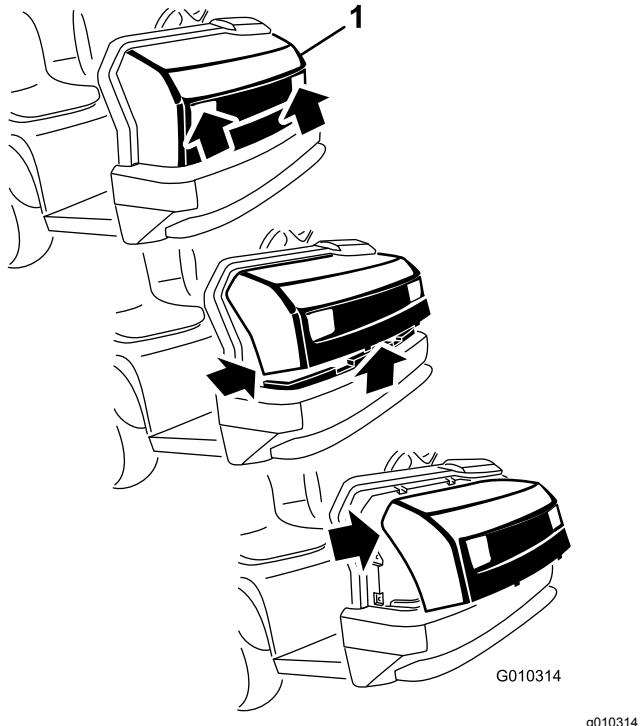

Figure 35
1. While grasping the hood in the headlight openings, lift up the hood to release the lower mounting tabs from the frame slots (Figure 35).
2. Pivot the bottom of the hood upward until you can pull the top mounting tabs from the frame slots (Figure 35).
3. Pivot the top of the hood forward and unplug the wire connectors from the headlights (Figure 35).
2. Insert the top mounting tabs into the frame slots (Figure 35).
3. Insert the lower mounting tabs into the frame slots (Figure 35).